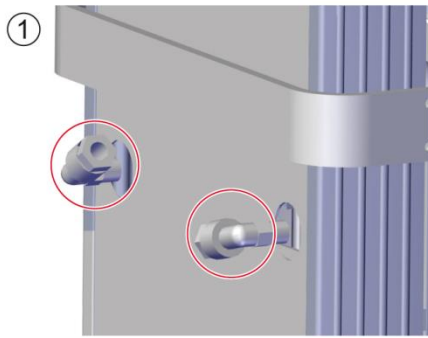

Fig. 8.3 – Angle fittings on intake/pressure sides
5. Unscrew the angle fittings and extensions (Fig. 8.3).
See figures 8.3 and 8.4.